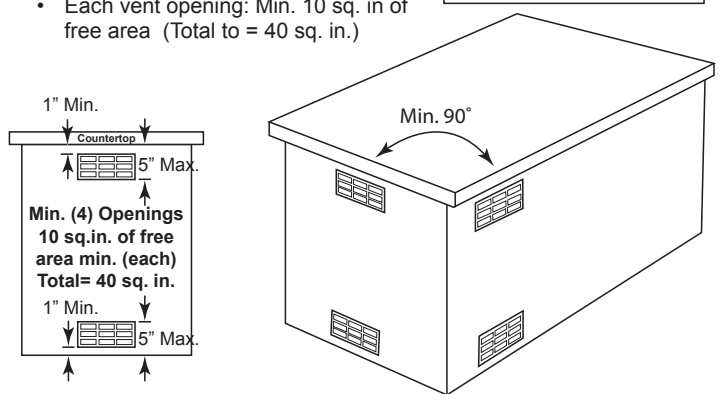

Figure 9
- Two openings should be in the side walls of the enclosure, at the top and spaced a minimum of 90° from each other. The openings should begin 1" or less below the countertop edge and end no more than 5" below the countertop edge. See Figure 9.
- **The openings must remain unobstructed:** The clearance between the openings and any items outside of the enclosure is a minimum of 6". The clearance between the openings and any items within the enclosure is a minimum of 2". This provides free flowing air inside and outside the enclosure to keep the island cool during operation of the power burner. See Figure 9.